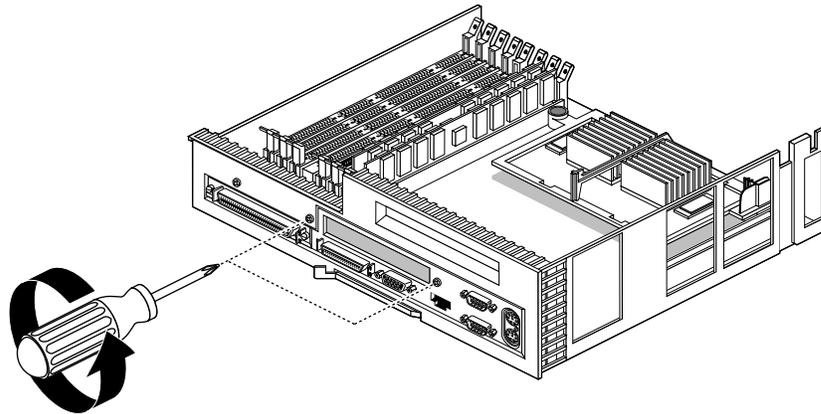

Figure 1-8 Removing the Filler Panel: O2 R5000 Class Workstation
- Use a Phillips screwdriver to remove the two screws that hold it (Figure 1-8).